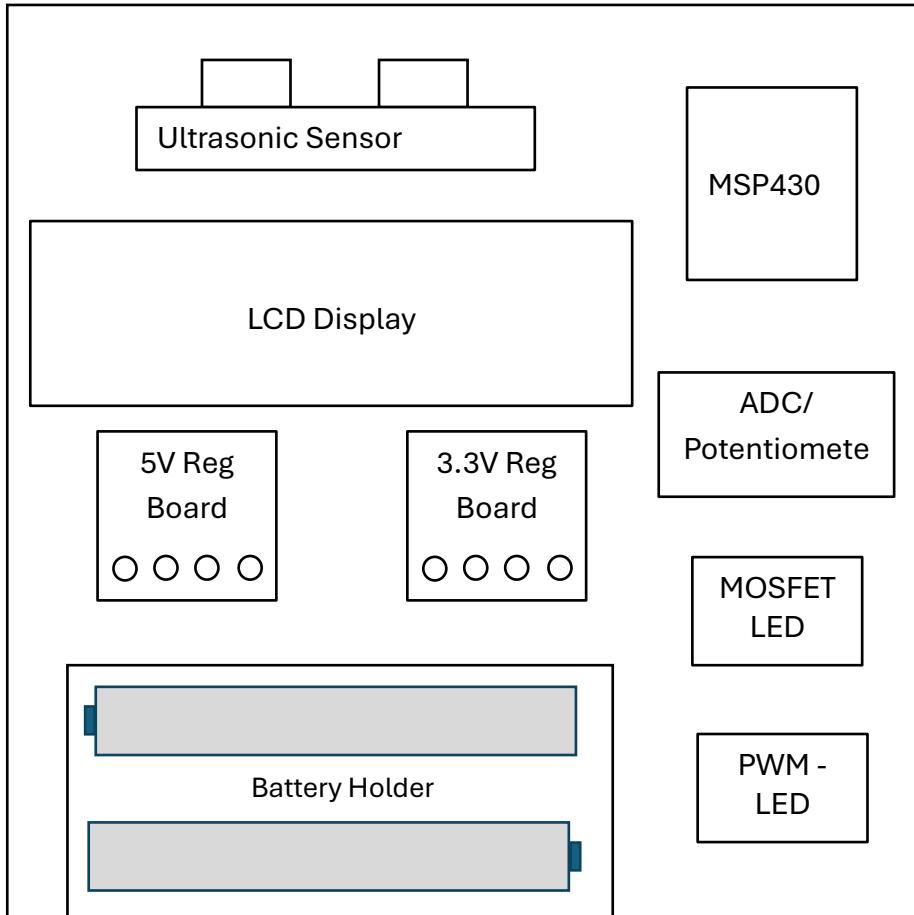

Figure 2: Functional block diagram for the junior design range finder project.
2.0: Goal – In this assignment the student will build the functional sections of the junior design range finder project. The functional block diagram for the range finder board is shown in Figure 2. The heart of the project is the MSP430G2553 microprocessor used to control a LCD, an ultrasonic sensor, and several LED's. There are several different functions implemented in this project. This assignment will develop software to read the analog voltage produced by the potentiometer using the MSP430 analog to digital (ADC) system, the displaying of character (ASCII) data on the LCD display, and reading the ultrasonic sensor to determine position location.